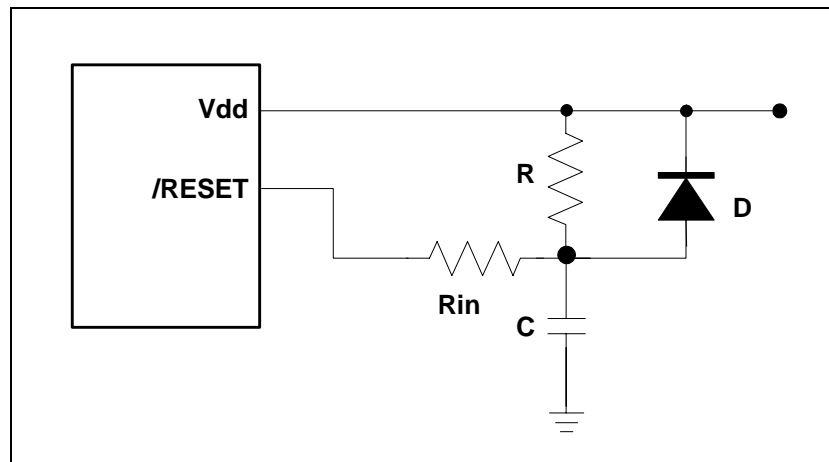

Figure 6-31 External Power-up Reset Circuit
The circuit shown in Figure 6-31 uses an external RC to produce a reset pulse. The pulse width (time constant) should be kept long enough for Vdd to reached minimum operation voltage. This circuit is used when the power supply has slow rise time. Because the current leakage from the /RESET pin is $\pm 5\mu\text{A}$, it is recommended that R should not be greater than 40K. In this way, the /RESET pin voltage is held below 0.2V. The diode (D) functions as a short circuit at the moment of power down.